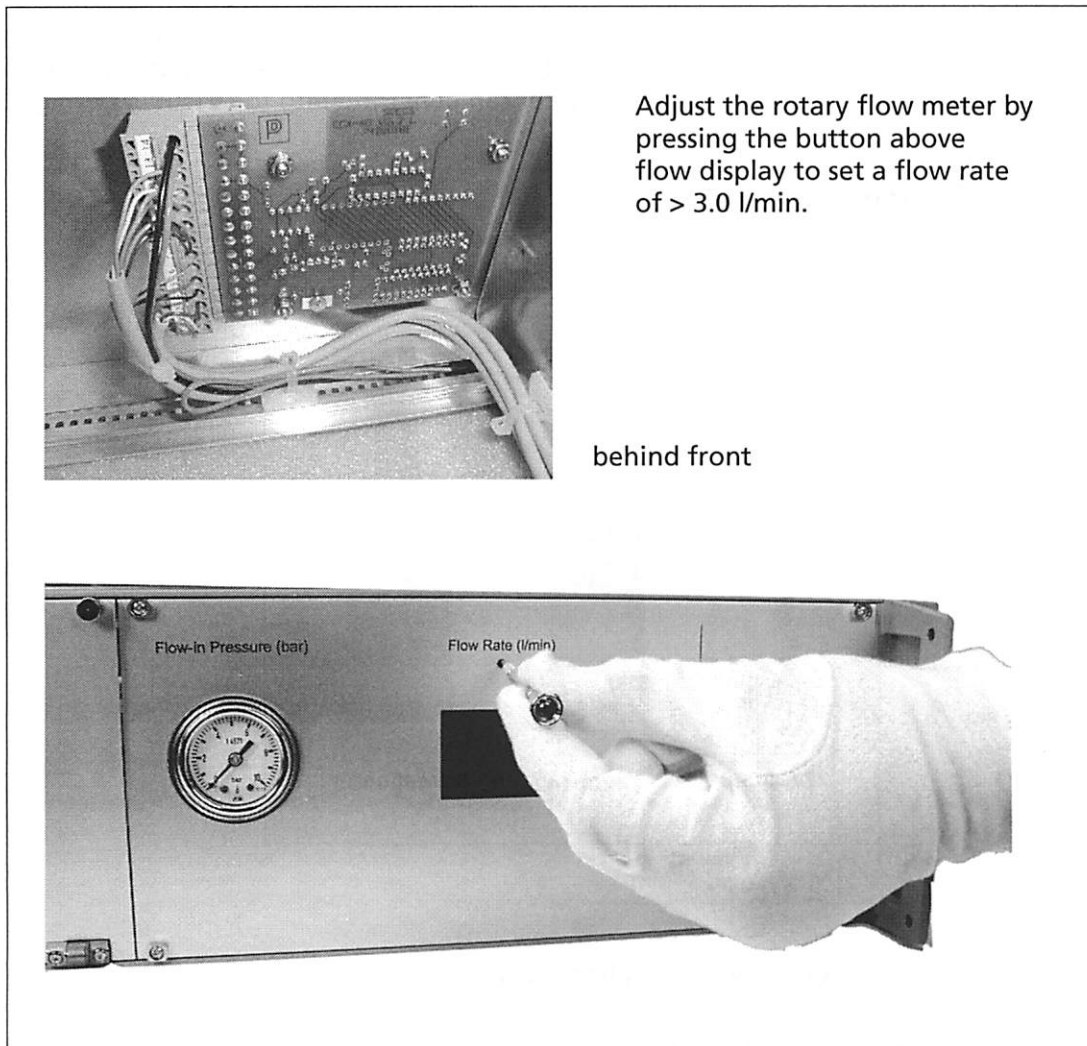

Figure 15 **Electronic board for adjusting the rotary flow meter**
- Before switching 'Water' on at XRC1000 press the push-button at circuit board (see figure 15, page 27)! Keep the button pressed while the unit powers up (indicated by display activity).